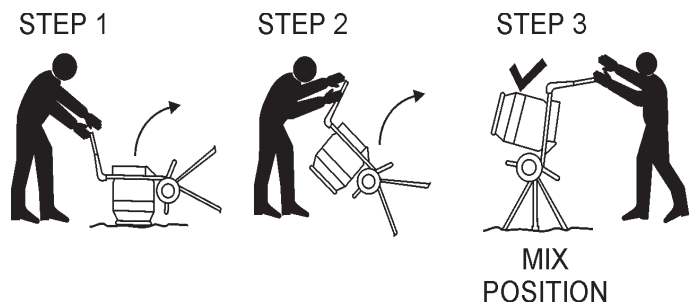

Figure 14. Tilting Mixer to Upright Position
11. Once the stand has been assembled, and the locking clip has been secured, begin tilting the mixer to an upright position. Remember **always** tilt from the front of the mixer as shown in Figure 14.